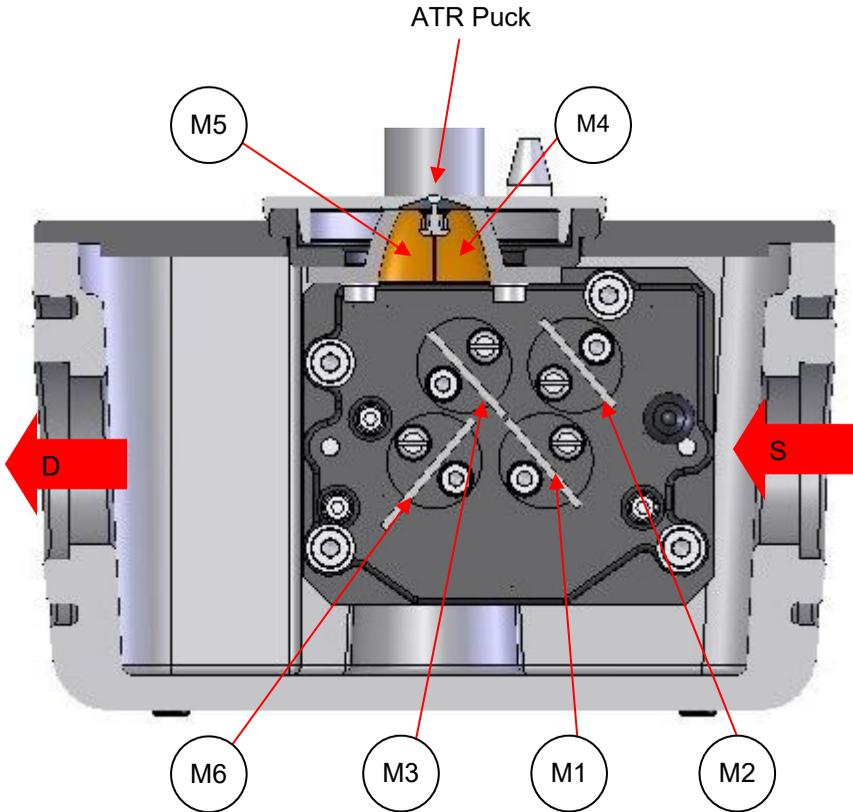

Figure 6-2: Cutaway front view of Quest ATR Accessory showing the Synopti-Focal arrangement of mirror components
2. Remove the Benchmark™ baseplate, front cover plate (5) and any puck assembly from the top of the optical unit.
3. Using the 2.5 mm ball driver tool in the screws (8), (10) and (12), adjust all three mirrors M1, M3 and M6 **ONLY** for their angle of tilt such that these mirror surfaces are **normal** (i.e. at a 90° right angle) with relation to the **back plane** of the main mirror mount frame assembly.
4. Adjust the rotation of mirrors M3 and M1 using grub screws (9) and (11) to form a straight line. Refer to Figure 6-2.
5. Adjust Mirror M6 using grub screw (7) until it is approximately perpendicular to the plane of mirrors M3 and M1, as shown in Figure 6-2.
7. Set up your IR spectrometer to monitor the energy throughput. If there is still **no signal** after the procedural steps above have been completed, then turning the grub screw (7) for rotation of the mirror M6 (first one way and then the other), which should lead to the energy level signal returning.